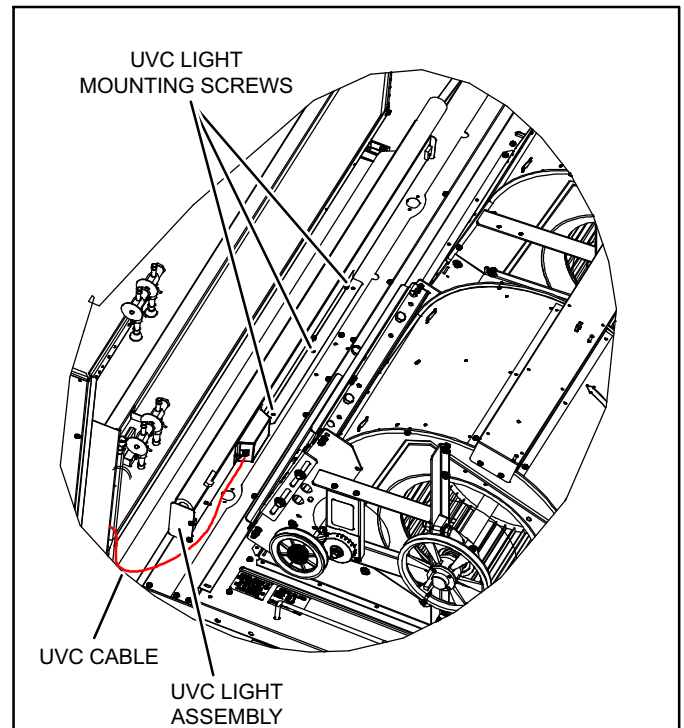

Figure 3. Attaching UVC Light Assembly
2. Carefully place the UVC assembly on the blower deck. Line up the mounting holes on the UVC assembly with the mounting holes on the blower deck (see figure 3). Use the #10 screws provided to attach the UVC assembly in place.
8. Carefully place the UVC assembly on the blower deck. Line up the mounting holes on the UVC assembly with the mounting holes on the blower deck (see figure 3 on Page 5). Use the #10 screws provided to attach the UVC assembly in place.